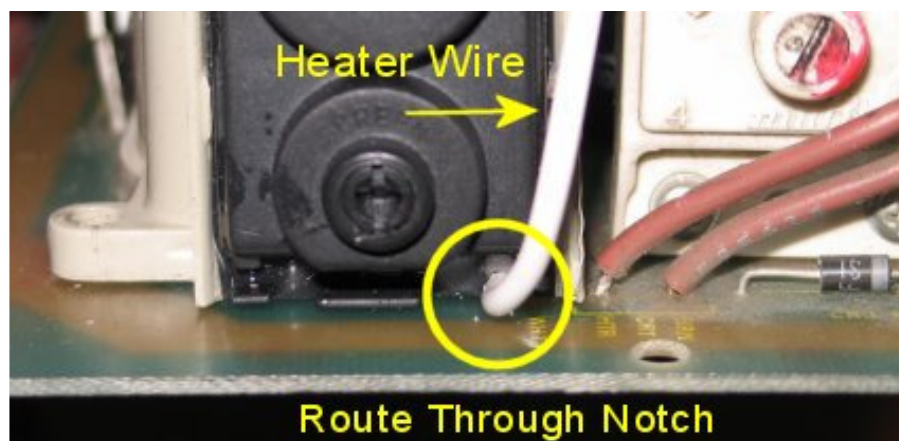

Figure 4: FBT Mounted Flush, Heater Wire Properly in Notch
7. Install the Flyback into the PCB, being careful to route the heater wire installed in step 5, through the notch in the bottom of the Flyback (See Figure 4). If the heater wire is not routed through this notch, the Flyback will not sit flush with the PCB.